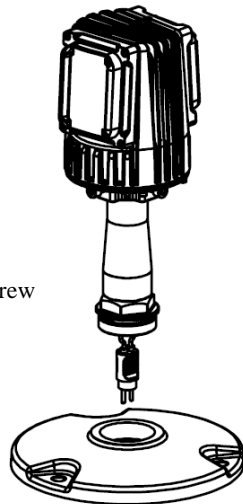

Figure 5-2
- Separate secondary plug; take new frangible pole, insert it in working position, and screw it down with internal hexagonal wrench. (See Figure 5-2)